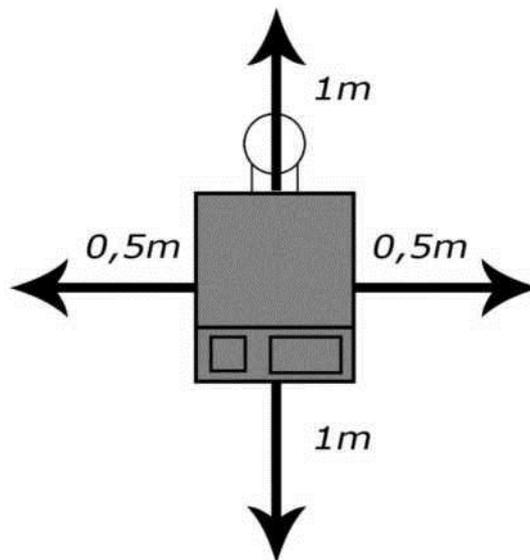

Fig. 2. Minimal safety space around the device.
- place the stove on a flat, concrete floor, in the spot allowing free space around the device according to Fig. 2.,